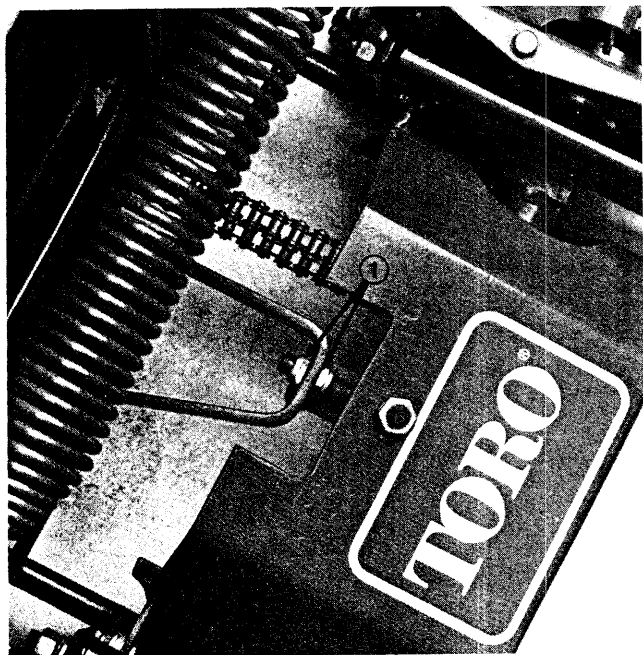

Figure 30
3. Adjust cutting unit attitude by lengthening or shortening center ball joints in front and rear yokes (Fig. 30, 31).